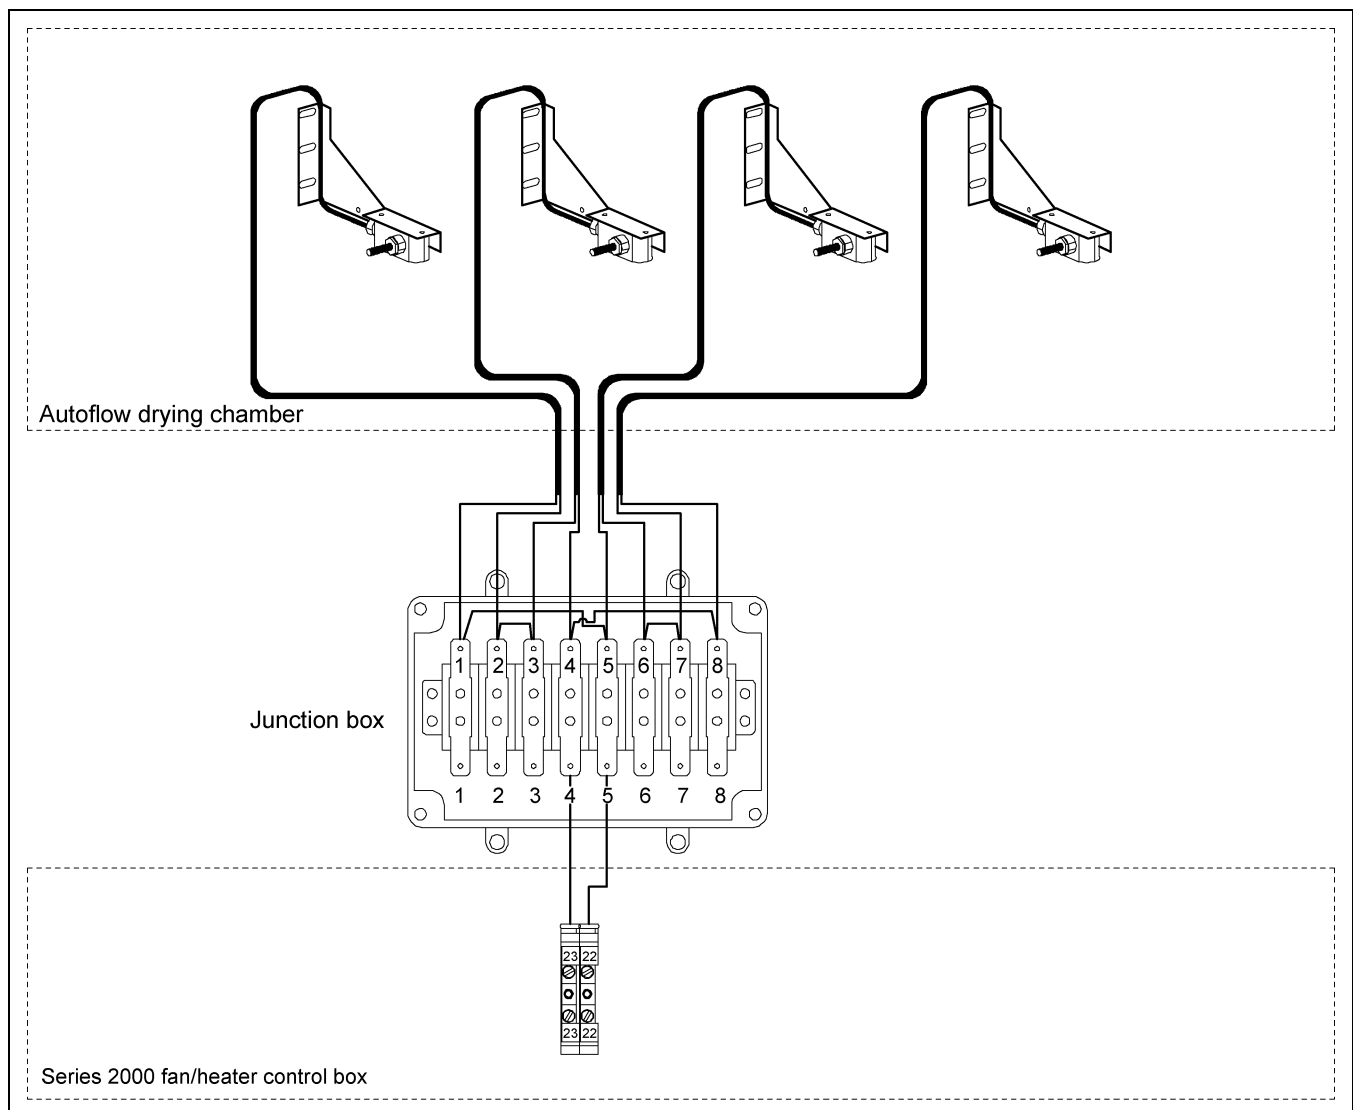

Figure 3H Illustration of the grain temperature sensor interconnection.
7. Wire the four (4) temperature sensors as shown in *Figure 3H* and *on Page 19*.